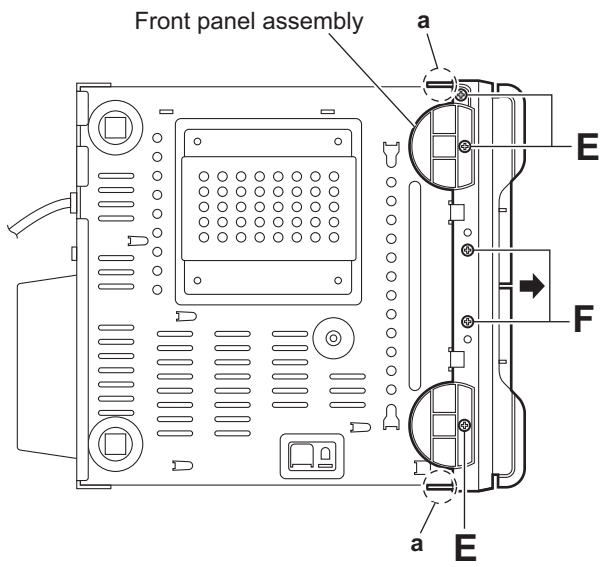

Fig.7
- (9) From the bottom side of the main body, remove the three screws **E** and two screws **F** attaching the front panel assembly. (See Fig.7.)
- (10) Release the claws **a** and remove the front panel assembly from the main body in the direction of the arrow. (See Fig.7.)